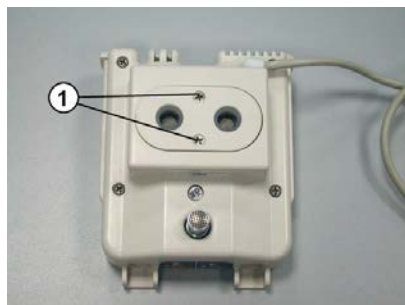

Fig. 22 Sensor module: screws
- 20** Fix the backing plate to the sensor module by the screws (Fig. 22/1).